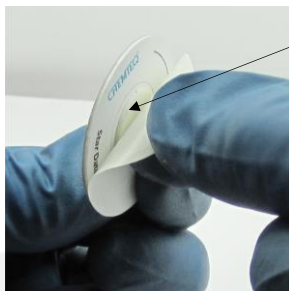

Figure 2
- d. Peel off the protective liner to expose the bottom adhesive (Figure 2).